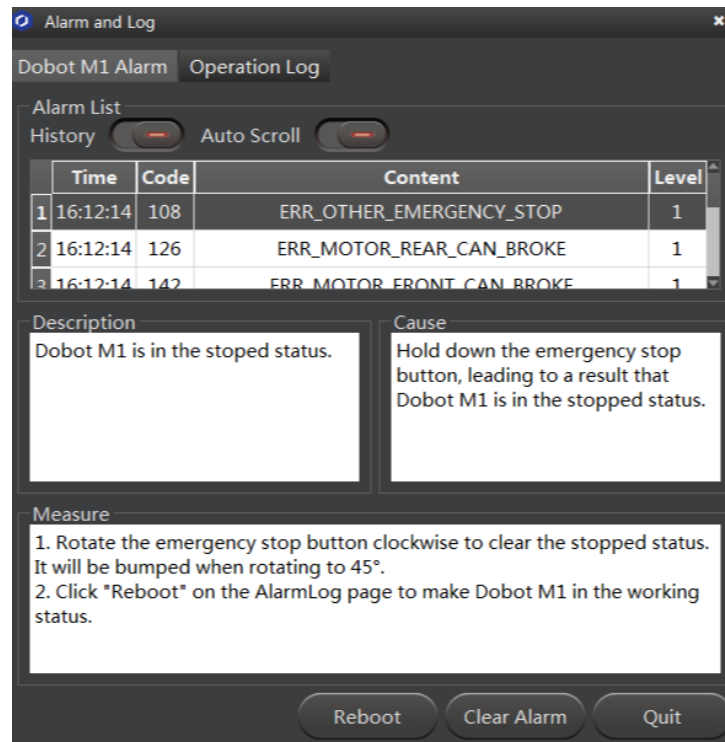

Figure 5.22 Alarm tab
Step 5 Click **Clear Alarm** on the **Dobot M1 Alarm** tab of **Alarm and Log** page, as shown in Figure 5.22.